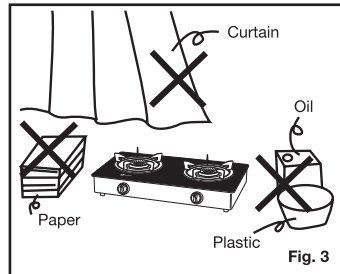

Fig. 3
- Make sure that there are no inflammables near the gas cooker. (Fig. 3)